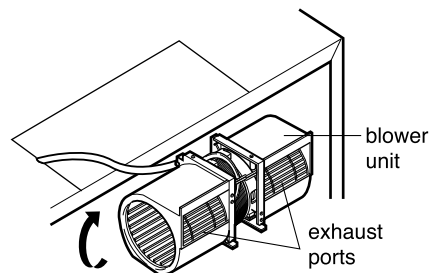

Figure 16
5. Rotate the unit so that the exhaust ports face the rear of the cabinet. See Figure 16. When you insert blower unit, blower wire must be like figure 16.